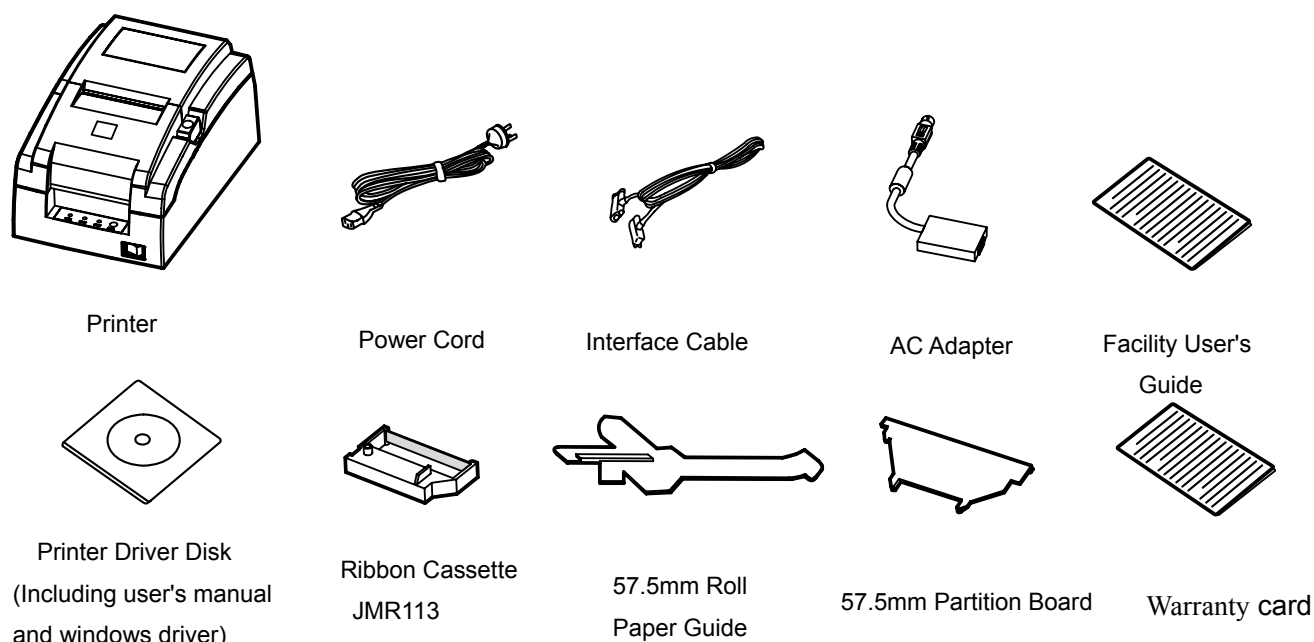

Figure 2-1 Printer pack list
Check the pack list as following (See the Figure 2-1). It includes the following items: (1) Printer; (2) Power cord; (3) Interface cable; (4) AC adapter; (5) 57.5mm roll paper guide; (6) 57.5mm Partition board; (7) Printer Driver Disk (Including user's manual and windows driver); (8) Ribbon cassette JMR113; (9) Facility User's Guide; (10) Warranty card.